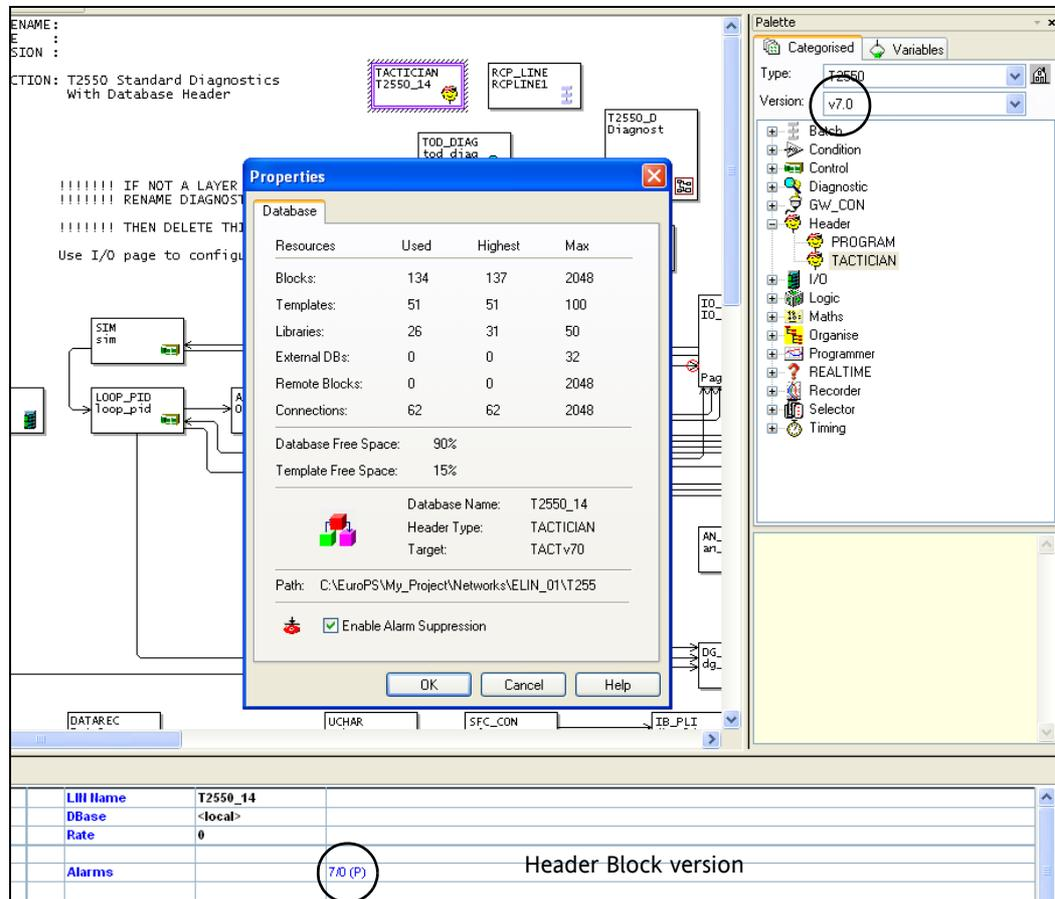

Figure 3.8c 'Loaded File Properties' Dialog box
8. Before fully reconstructing the Header Block, it is recommended to check that the correct version has been applied in the Header Block. Referring to figure 3.8c below, open the Palette and ensure that the Version number shown is 'v7.0' or greater (v5.0 or greater for Visual Supervisor). Open the Header Block by double clicking on it ensuring that Version 7/0 or greater (V5/0 or greater for Visual Supervisor) is shown in the field adjacent to the 'Alarms' field. Once satisfied that the correct version has been applied, the Header Block can now be fully reconstructed using the information as recorded in step 5.
9. Finally, to enable Alarm Suppression functionality, select the 'Loaded File Properties' item from the LINTools 'File' menu to open the database properties dialog box as shown in figure 3.8c above. 'Tick' the 'Enable Alarm Suppression' box by clicking within it and note the Icon that appears to denote Alarm Suppression has been enabled for that database. This icon is shown in the bottom right hand corner of the LINTools window unless on-line configuration mode is being used. For Layer databases also refer to section 3.2.1.